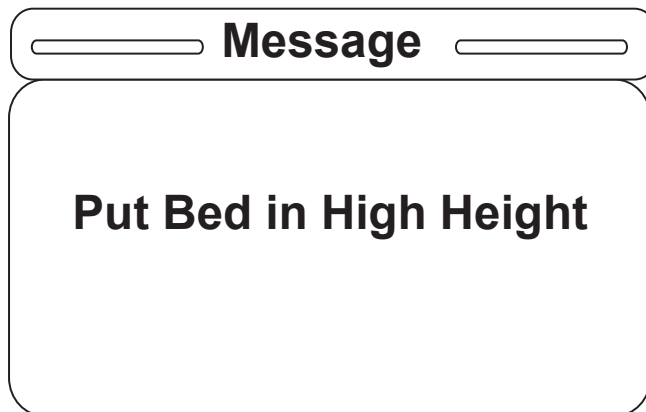

Figure S-33
31. The burn-in height routine will display different messages depending on if the user chooses to activate the Zoom®/Batt. option. **If the Zoom® or Battery Backup option is activated**, the message in Figure S-33 will be shown on the screen. If the Zoom®/Battery Backup option was deactivated, then the message would display: “Put Bed in Low Height.” Drive the bed to its high or low height (depending on the message displayed) and hold the Bed Motion Lock. The screen will display the message “Hold to Set Height Limits.” Once the lock button is held for two seconds, the message “Release Button” will flash.